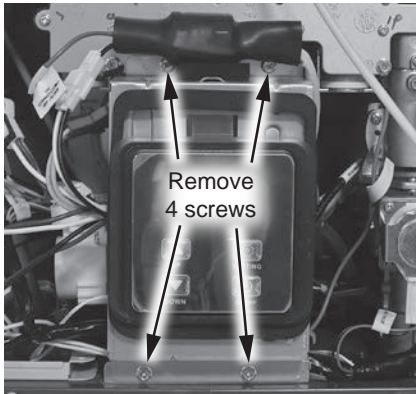

Figure 98 - Removing UIM and bracket screws
- 14 Locate the User Interface Module (UIM) and bracket. Remove the four screws securing bracket to the water heater. Place screws aside in a safe place for reinstallation. See Figure 98.